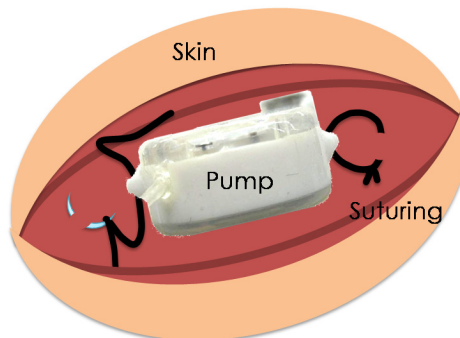

Fig. 3 Subcutaneous Pump Fixation:
6. Pump Fixation ...**See Fig.3**